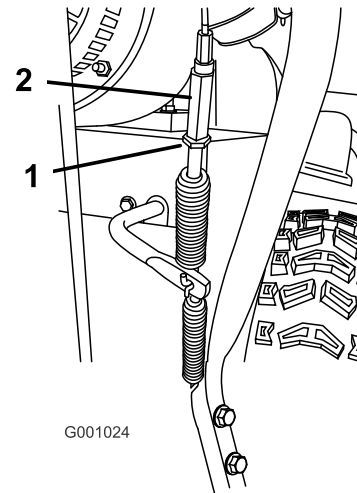

Figure 51
5. Loosen the jam nut (Figure 51).
6. Loosen or tighten the turnbuckle that adjusts the tension on the cable (Figure 51).